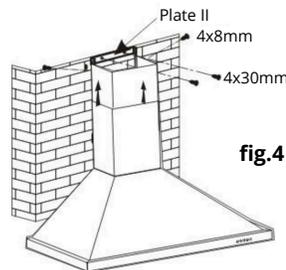

fig.4
5. Assemble the chimney into the unit and fix it with 2 screws (see Fig.4)